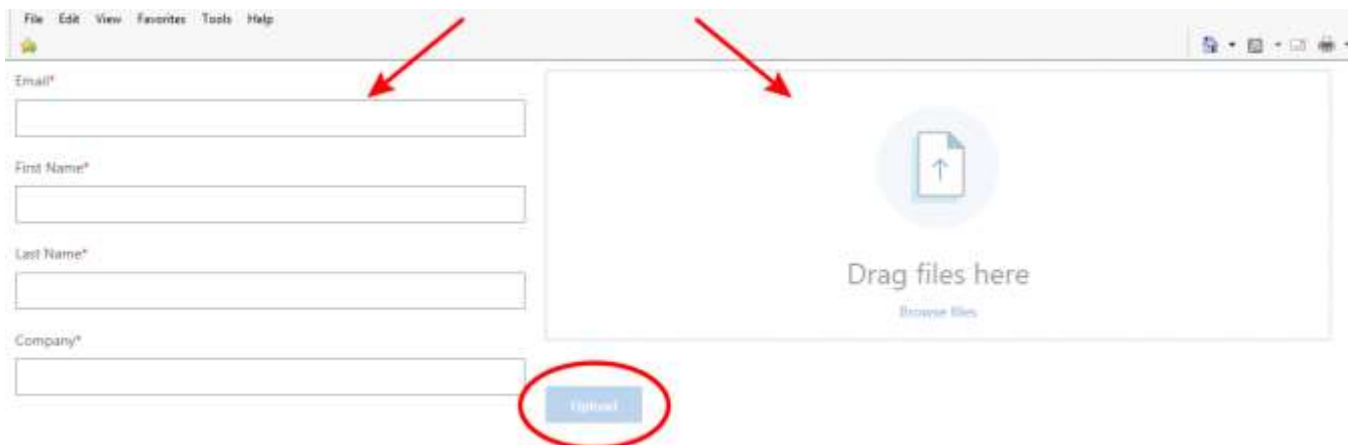

Figure C-36
3. Enter your email, name, and company in the designated areas on the left-hand side of the page (Figure C-36).